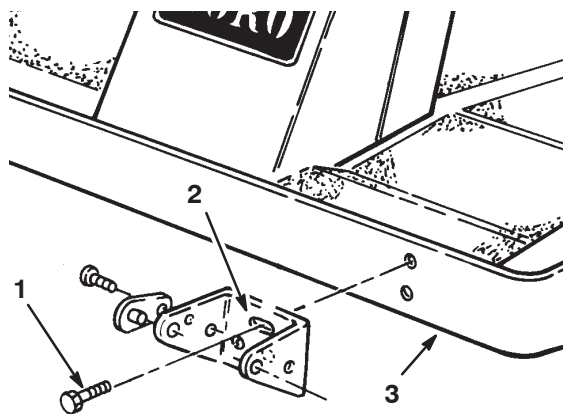

Figure 10
4. To install the mounting brackets, insert 2 flange head capscrews (3/8 x 1 in.) through the slotted bracket holes. Thread the screws into the captivated frame nuts and torque them to 45–50 ft.-lb. (61–68 N·m) (Fig. 10).